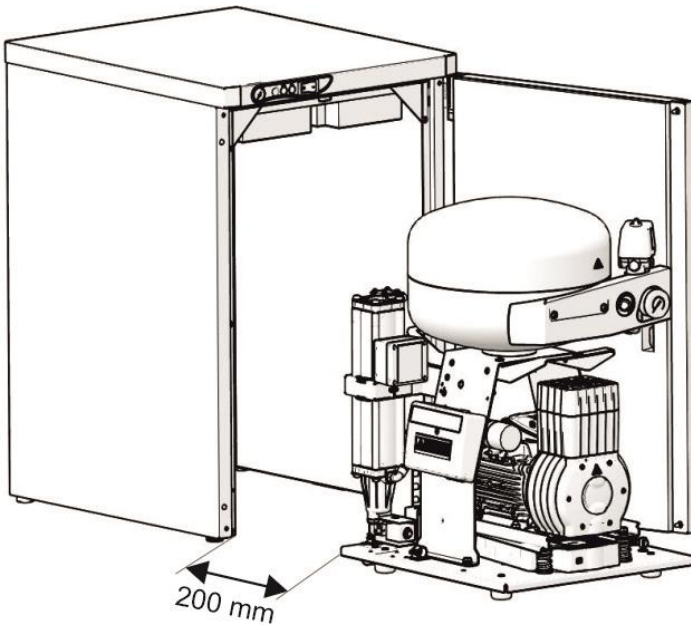

Fig. 12: Positioning of the compressor for connections
- Position the compressor within a distance of at least 200 mm from the cabinet to facilitate the movement of the hoses and the power cord within the cabinet (Fig. 12).